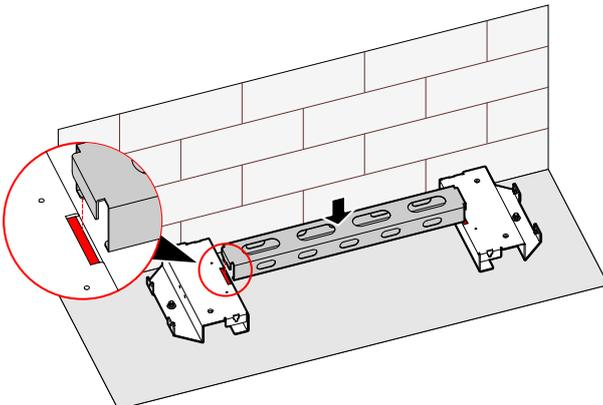

Figure3-9 Assemble the beam
4. Assemble the beam to the base module, as shown in Figure3-9.